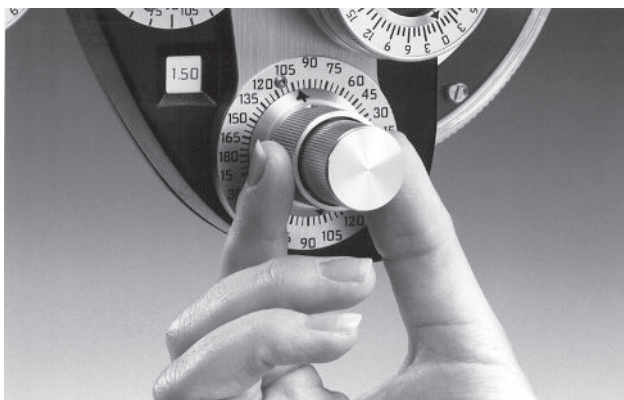

Figure TM-6 Turning Cylinder Axis Knob
9. The Cylinder Axis Knob (concentric with power knob) can be continuously turned clockwise or counterclockwise to set the axis of the cylinder in any meridian from 0° to 180°. Refer to Figure TM-6.